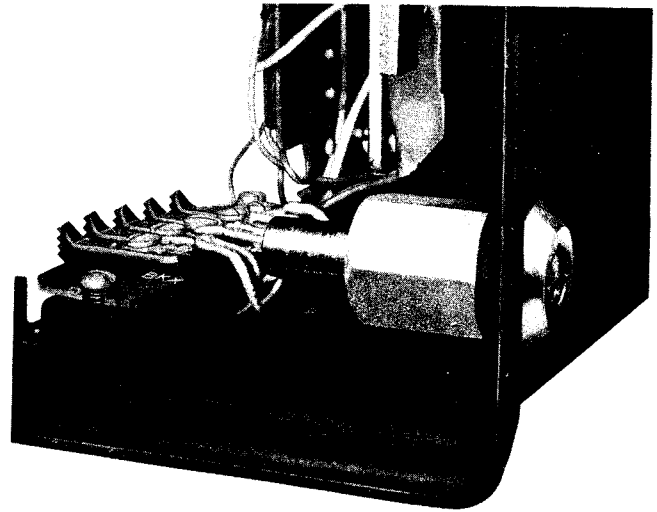

Fig. 15—KS-19277 Lock Installed in Upper Housing
**3.12** The lock is held in place by a spring steel washer and heavy steel nut (Fig. 15). Use of a tubular key permits the back of the lock to rotate and screw on to the end of a security fastener.